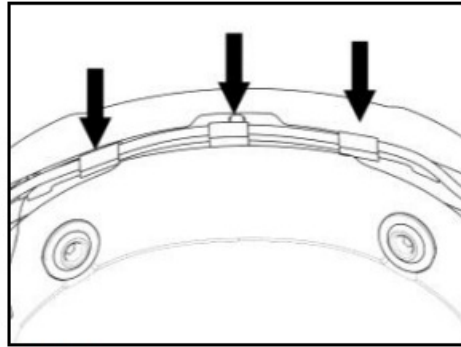

Fig. 23
- Position the wiring and the antenna in the rear part of the helmet (Fig. 23).